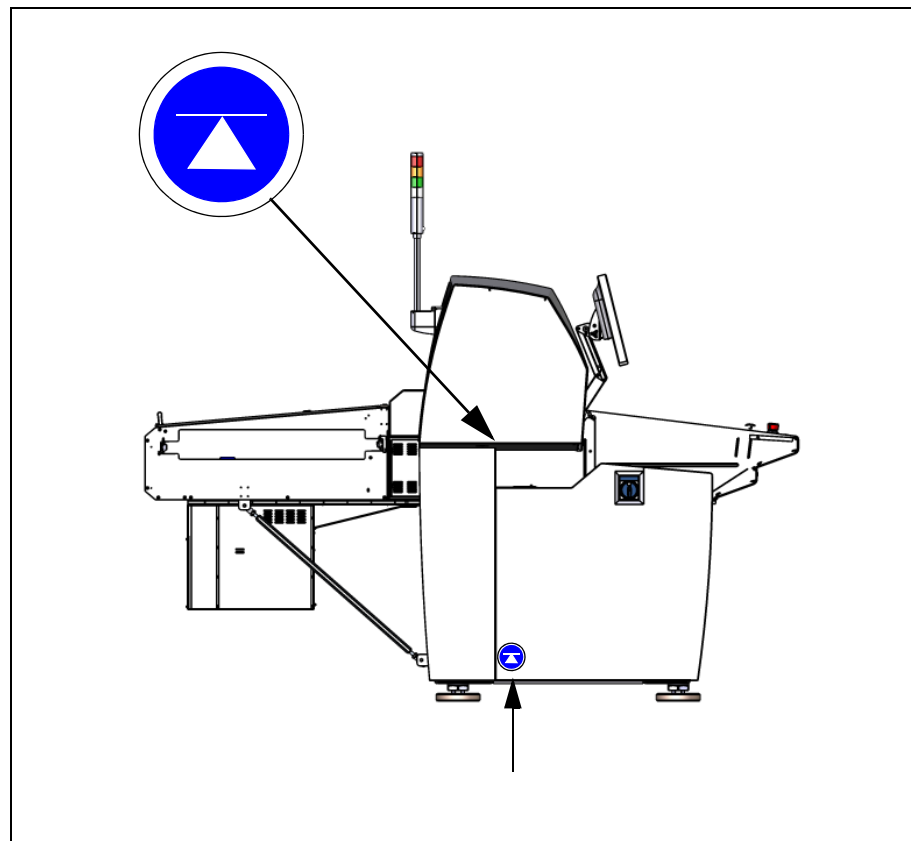

Figure 2-9. Center of gravity label.
**CAUTION!** Due to the rigid design of the machine frame, the center of gravity is **not** at the exact center of the machine gable. The center of gravity is slightly shifted against the back end of the machine. The actual center of gravity is indicated by a label located at the lower end of the machine gable (see Figure 2-9).